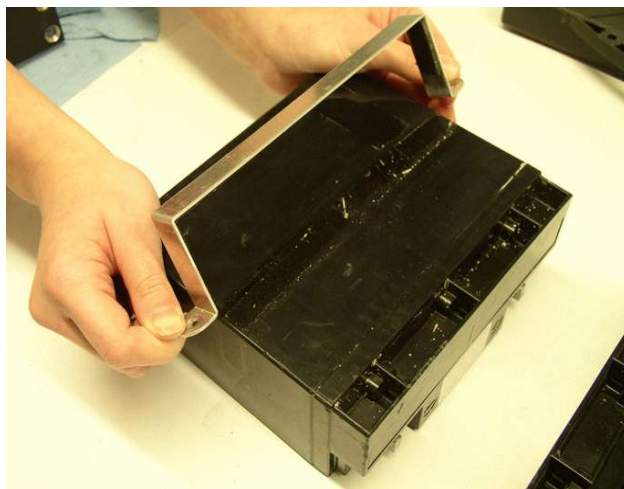

Figure 8
STEP 4 : Disconnect the battery harness. (See Fig 6-7) Flip the batteries over and remove the battery straps. (See Fig 8) Properly dispose of the old batteries.